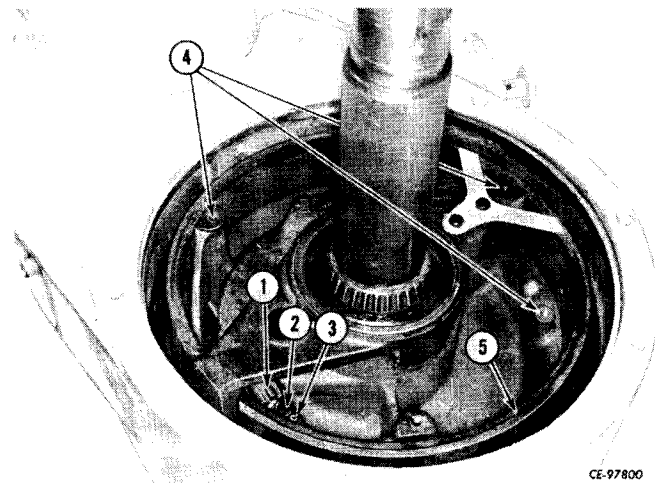

Figure 14-9
Loosen clutch adjuster (1, Fig. 14-9). Remove cotter pin (3) and clevis pin (2). Remove clutch band (5). Three steel balls will be released from their mountings (4) when the clutch band is removed.